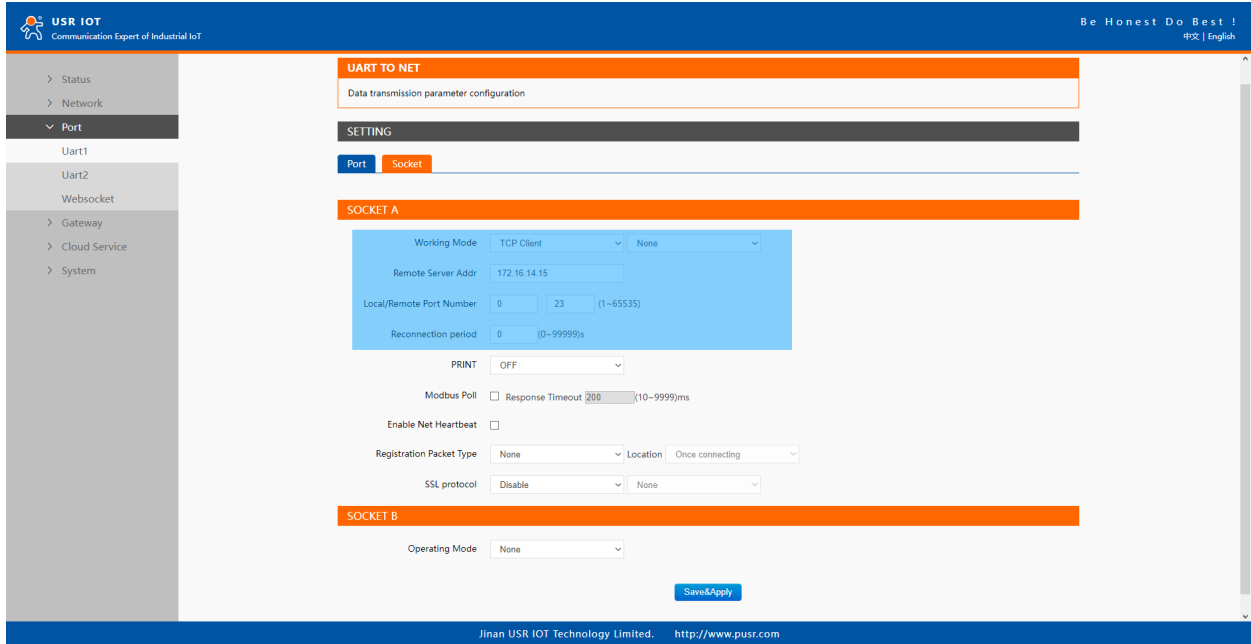

Fig. 38 TCP client work mode
When the working mode of this device is TCP Client, the remote device must work in TCP Server mode, and its IP address and port number must be configured, which can be configured in the corresponding options of the network connection. The local port number can be ignored and no configuration is required. USR-M100 supports SSL (TLS v1.0 or v1.2) data encryption in this operating mode. Fig.38 shows an example of configuration setting for TCP Client working mode under the Uart1 socket page. You can configure other serial ports in the same way. There are additional connection settings that can be configured as shown in Fig.38.
1. Click on the "Uart1" tab on the menu frame on the left side of Web UI to go to Uart1 page as shown in Fig.38.